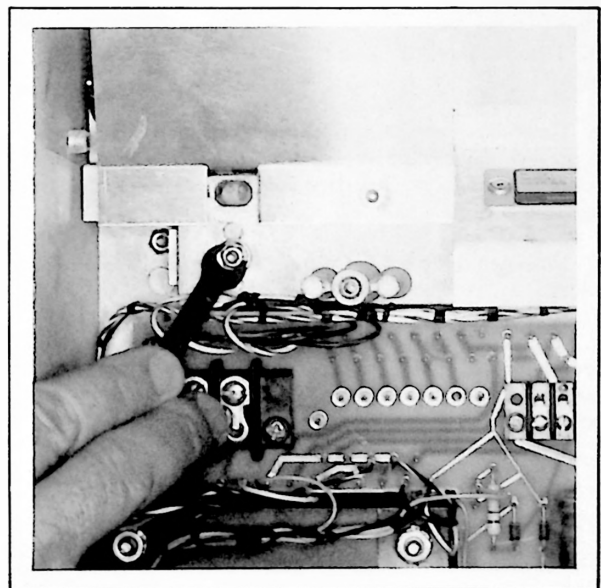

Figure 5-3. X-Axis Potentiometer Replacement
c. Slide carriage arm to right side. Stand recorder on right side. Remove three nuts holding potentiometer from underside of recorder. See Figure 5-3.